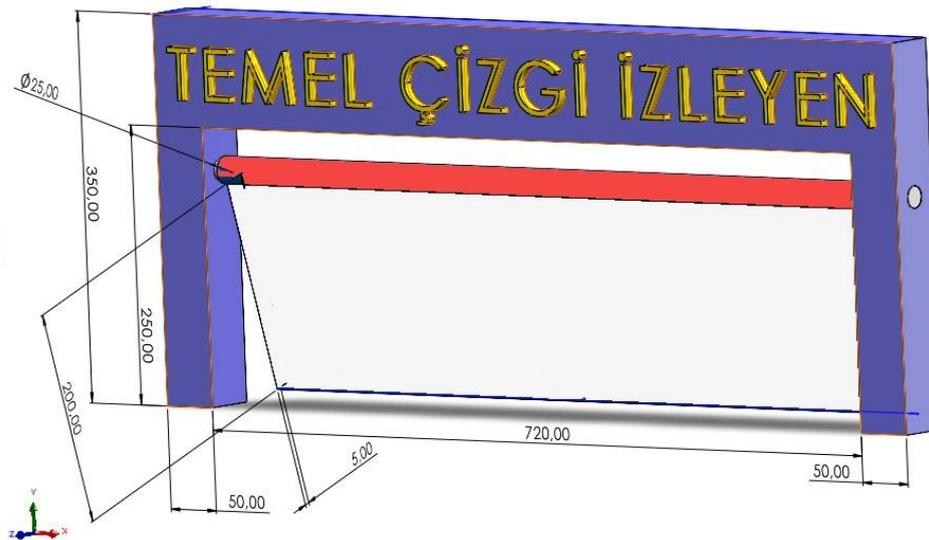

Figure 4. Dimensions of the automatic door
6. The opening section of the automatic gate located behind the starting line is white in colour, and the gate dimensions are shown in Figure 4.